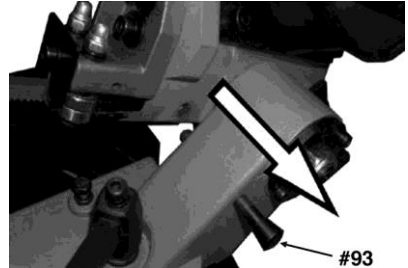

Fig. 4
1. Pull the pin (#93) from the hole in the body and tilt saw to the upper position. (Fig. 4)